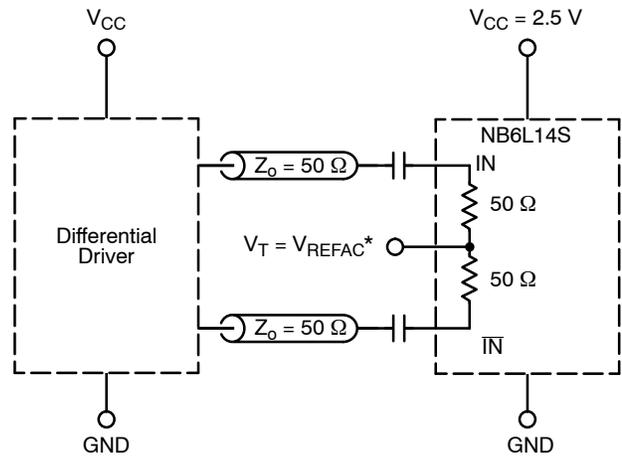

Figure 17. Capacitor-Coupled Differential Interface ( $V_T$  Connected to  $V_{REF\_AC}$ )
**DIFFERENTIAL INPUTS DRIVEN SINGLE-ENDED** (Figures 17, 18, 22, and 24)
11.  $V_{REFAC}$  used to rebias capacitor-coupled inputs only (see Figures 17 and 18).